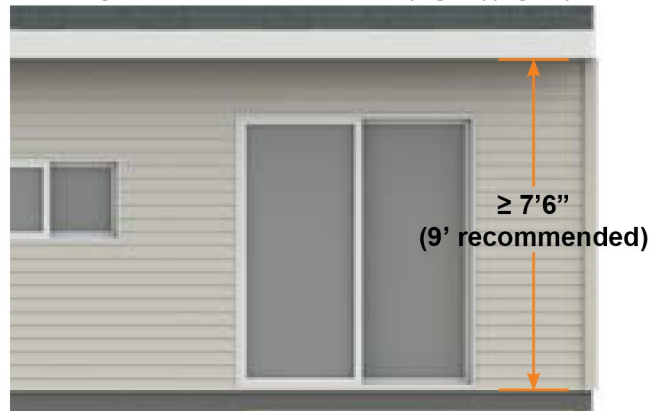
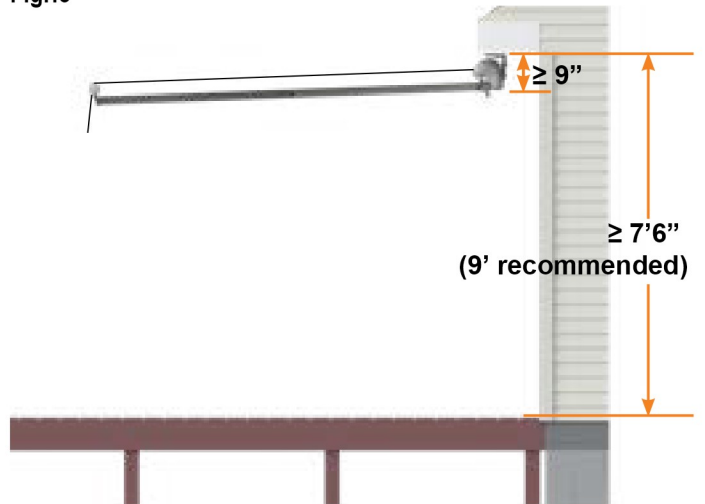

Fig.13
Fig.14
• Measure the height from ground to the underside of underhang/soffit intended for installation. There must be at least 7'6" from the ground/deck to the underside of the underhang/soffits to allow for headroom under the awning, but 9' is recommended (Fig. 13)(Fig. 14).